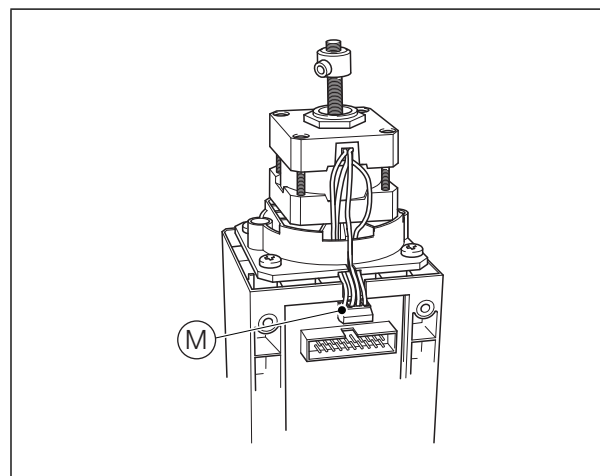
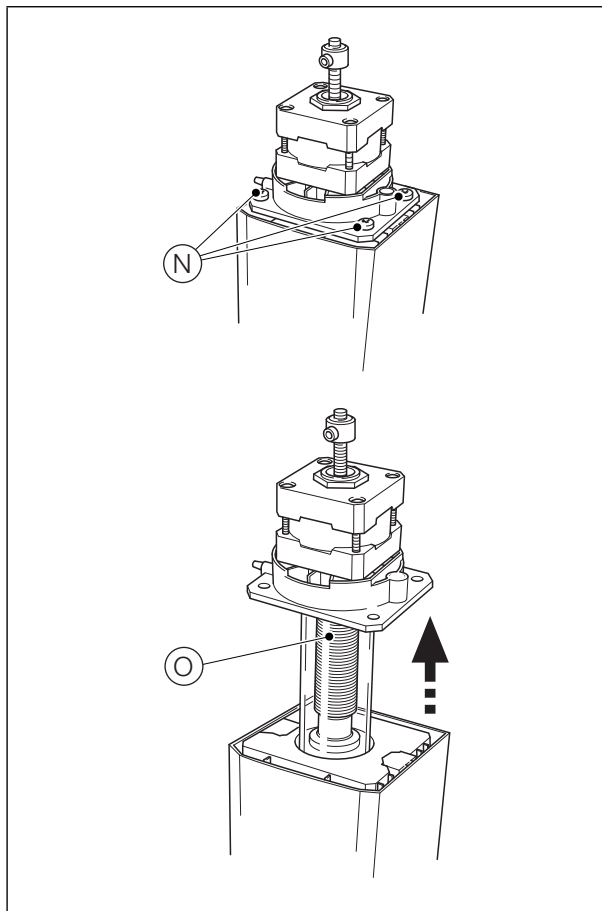

Fig. 13.13 Disconnecting the Motor
Fig. 13.14 Removing the Motor and Sample Tube
6. Referring to Fig. 13.13, disconnect the motor wiring plug (M).
7. Referring to Fig. 13.14, remove the four screws (N) and remove the motor and sample tube (O) from the lower half of the measuring cell.
9. Referring to Fig. 13.14, refit the motor and sample tube (O) to the lower half of the measurement cell, ensuring that the motor wiring plug is aligned with the socket (see (M) in Fig. 13.13). Secure the motor mounting plate to the lower half of the measurement cell with the four screws (N).
10. Referring to Fig. 13.13, reconnect the motor wiring plug (M).